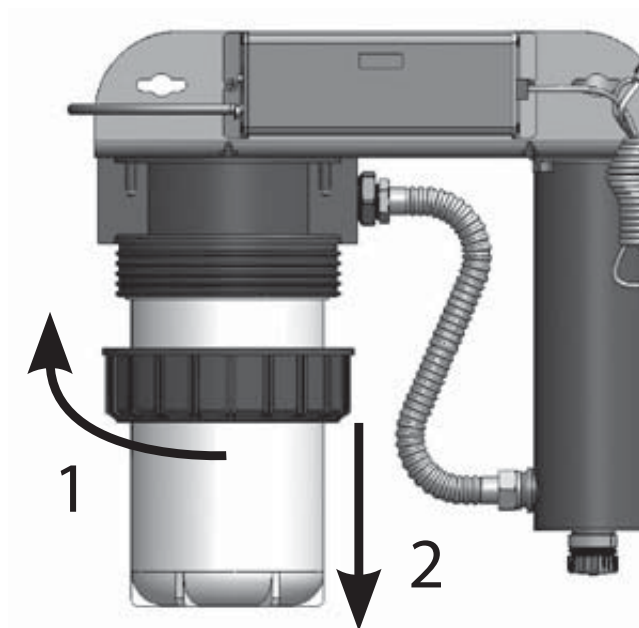

Figure 6 Removing Filter Housing
3. Remove the filter housing from the unit by turning the blue collar counter-clockwise until it falls free from the head. Pull down the white filter housing (be careful as it will be full of water and will be heavy). Refer to Figure 6.